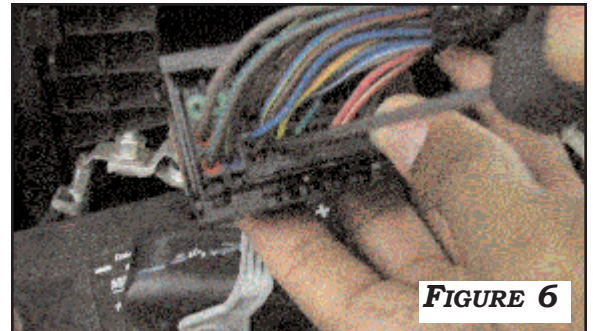
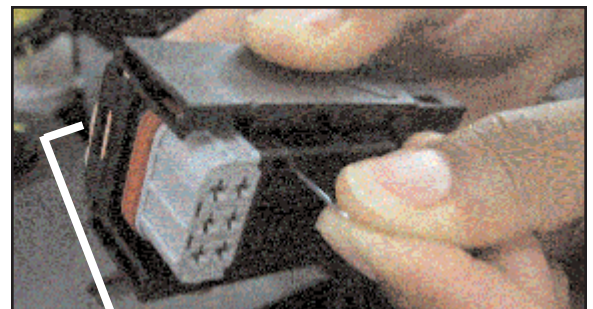

FIGURE 6
FIGURE 7
6. PRESS IN SIDES OF BOTH CONNECTORS TO REMOVE AIRBAG AS SHOWN IS FIGURE 6
3. RELEASE SLOT CLIP TO FREE PINS IN CONNECTOR. USE PRECISION TOOL TO BREAK PLASTIC INSERT IN OPENING OF **PIN 15, 18 AND 34** OF CONNECTOR (**FIGURE 6**). PUSH OUT REMAINS ON REVERSE SIDE AS SHOWN IN **FIGURE 7.**